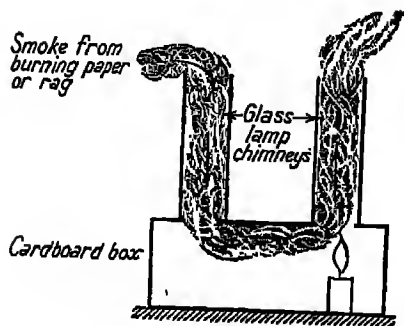

FIG. 249. Convection currents in air.
**Expt. 294.** Arrange a box and two lamp chimneys as shown in Fig. 249. Light a candle under one chimney. Hold burning brown paper above the other chimney. In time smoke will be seen travelling up the first chimney.